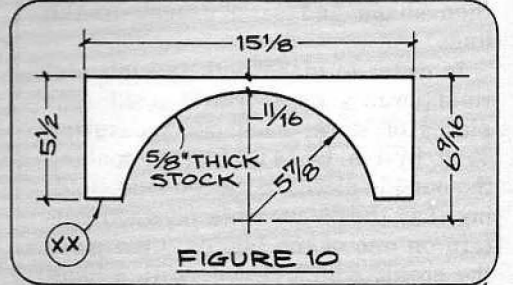

FIGURE 10
The two side spacers (WW) and the front spacer (XX) are next. After cutting the parts to length and width, use a compass to scribe the 5 7/8 in. radius on part XX as shown in Fig. 10. As before, cut out with a band or saber saw then shape and sand to the line.